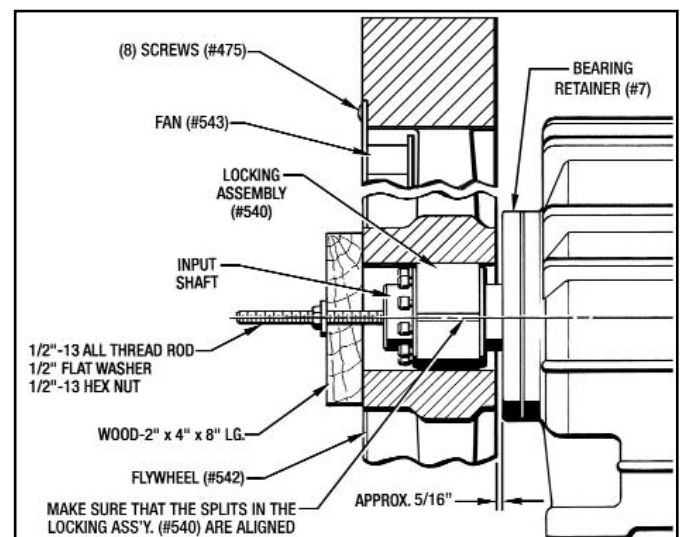

Figure 1 - Installing Flywheel on Input shaft
(See *Figure 1*)
6. Place the 2x4, 1/2" Flat Washer, and a 1/2"-13 Nut onto the threaded rod and tighten the hex nut so it pushes the Flywheel onto the input shaft until it is approx. 1/8" from the Fan Shroud (#24) or 5/16" from the Bearing Retainer (#7) (See Figure 1)